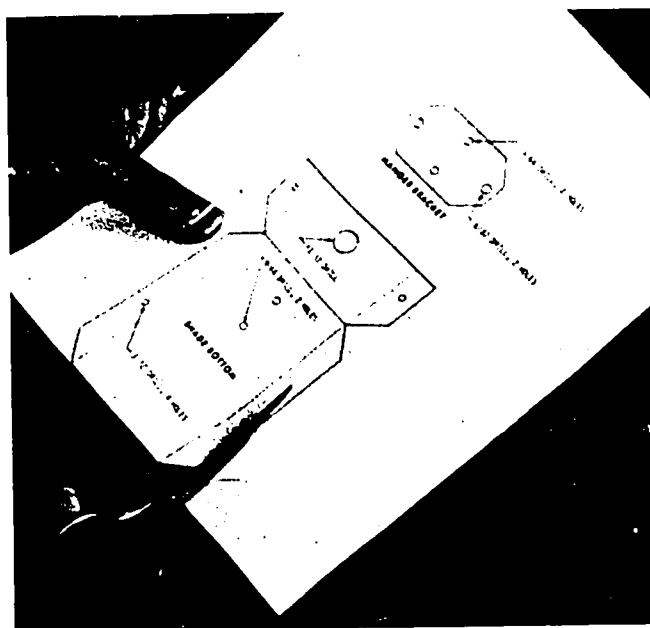
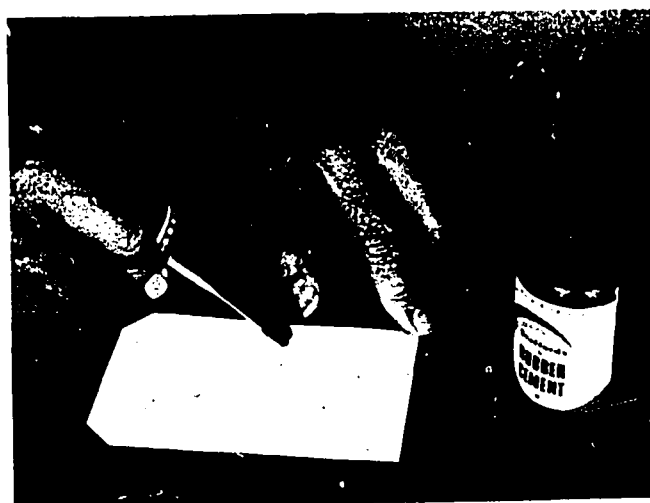

Fig. 149-5. Cutting Out Paper Template
Fig. 149-6. Applying Cement to Template
4. The paper templates should be cut with the object lines remaining. See Fig. 149-5. Apply the rubber cement sparingly to the outer edges of the paper template and component. See Figs. 149-6 and 149-7. Fig. 149-8 shows how the center punch is used to locate the center of the holes to be drilled. In order to do more accurate work, a metal template with $\frac{1}{16}$ " locating holes may be used. See Fig. 149-9. CAUTION: If you choose to use the metal templates, make at least two of them and clearly mark them on both sides with a magic marker. Save the second template as a spare.
1. Demonstrate cutting out the pattern and using rubber cement to attach the pattern to the component blank. See Figs. 149-5, 6, 7. Caution the students to apply only small amounts of rubber cement around the outer perimeter of the pattern and blank component. Cut out the notches according to the pattern.